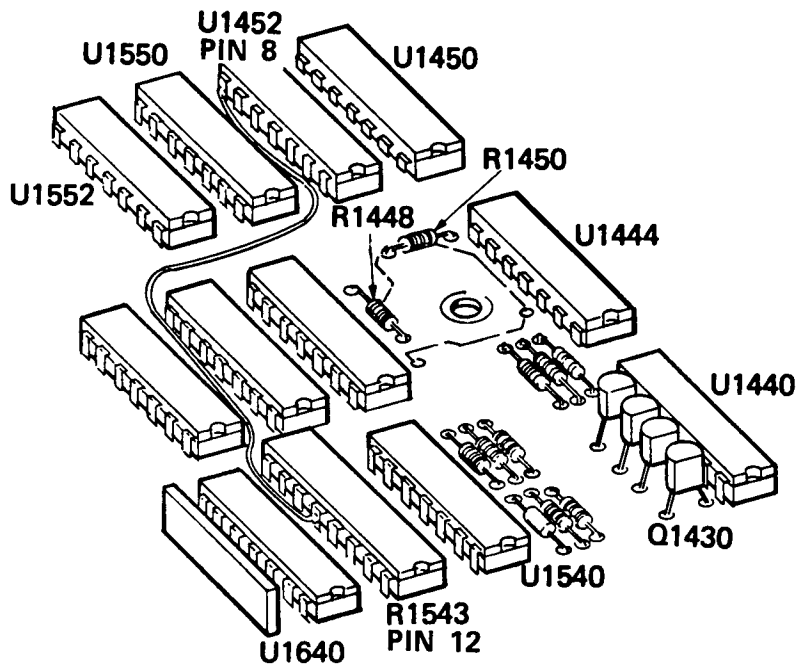

Figure 9. - Partial. Acquisition ckt bd.
- ( ) 18. Solder a length of blue 30 AWG wire connecting U1452, microcircuit pin 8 to R1543, resistor network pin 12, refer to Figure 9.